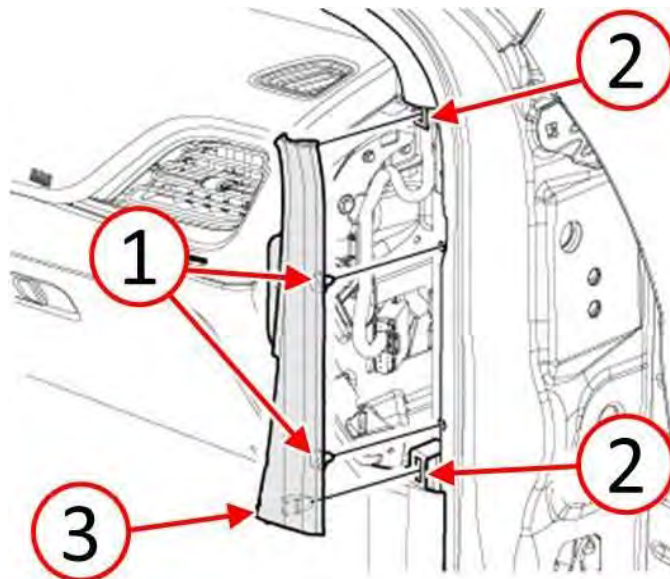

Fig. 4 Remove Right Side A-Pillar Extension Trim
3. Using a trim stick or equivalent, release the push pin fasteners (1) and the retaining tabs (2) then remove the right side A-pillar extension trim (3) from the door sill scuff plate (Fig. 4).